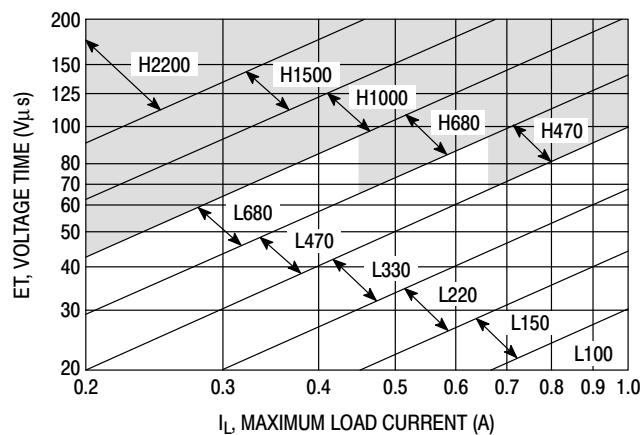

Figure 21. LM2575-Adj
4. Inductor Selection (L1) A. Use the following formula to calculate the inductor Volt x microsecond [V x μs] constant: $E \times T = (V_{in} - V_{out}) \times \frac{V_{out}}{V_{on}} \times \frac{10^6}{F[\text{Hz}]} [V \times \mu\text{s}]$ B. Match the calculated E x T value with the corresponding number on the vertical axis of the Inductor Value Selection Guide shown in Figure 21. This E x T constant is a measure of the energy handling capability of an inductor and is dependent upon the type of core, the core area, the number of turns, and the duty cycle. C. Next step is to identify the inductance region intersected by the E x T value and the maximum load current value on the horizontal axis shown in Figure 21. D. From the inductor code, identify the inductor value. Then select an appropriate inductor from the Table 1 or Table 2. The inductor chosen must be rated for a switching frequency of 52 kHz and for a current rating of $1.15 \times I_{load}$. The inductor current rating can also be determined by calculating the inductor peak current: $I_{p(max)} = I_{Load(max)} + \frac{(V_{in} - V_{out})t_{on}}{2L}$ where t_{on} is the "on" time of the power switch and $t_{on} = \frac{V_{out}}{V_{in}} \times \frac{1}{f_{osc}}$ For additional information about the inductor, see the inductor section in the "External Components" section of this data sheet.	4. Inductor Selection (L1) A. Calculate E x T [V x μs] constant: $E \times T = (12 - 8.0) \times \frac{8.0}{12} \times \frac{1000}{52} = 51 [V \times \mu\text{s}]$ B. E x T = 51 [V x μs] C. $I_{Load(max)} = 1.0 \text{ A}$ Inductance Region = L220 D. Proper inductor value = 220 μH Choose the inductor from the Table 1 or Table 2.